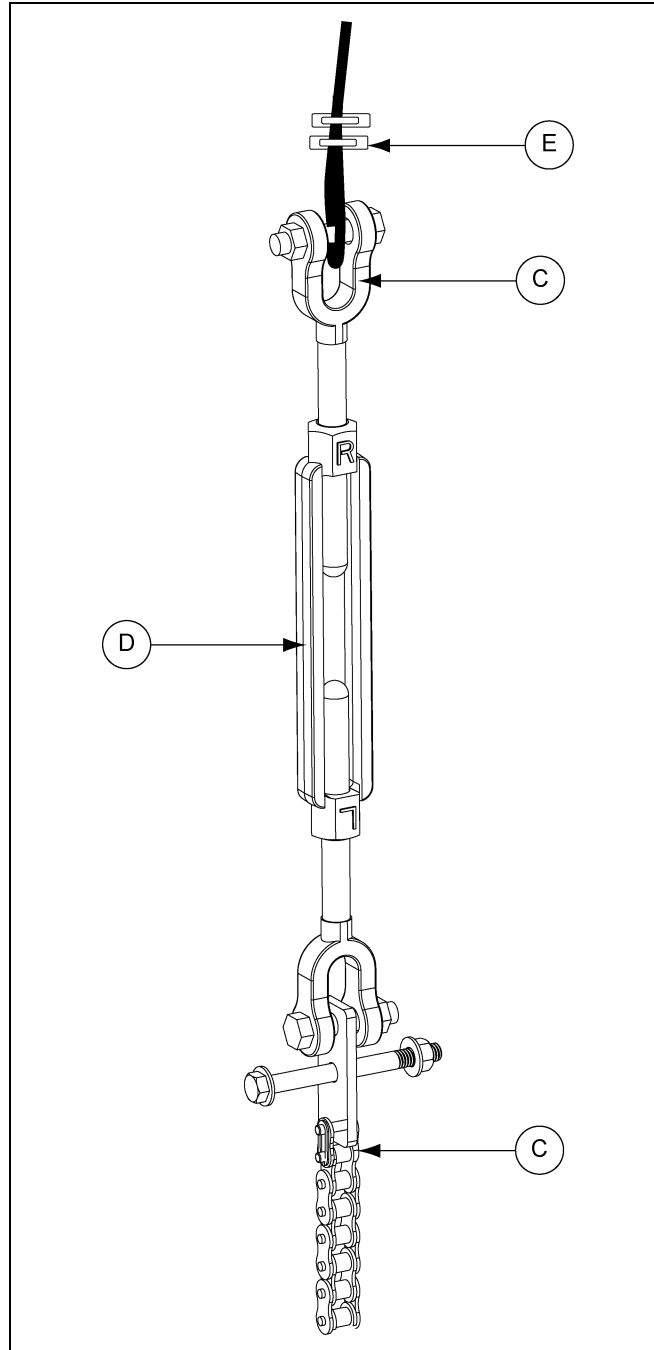

Figure 4J
2. Set turnbuckle (D) to the halfway point to allow for adjustment in both directions. (See Figure 4J.)
3. Bolt the turnbuckle to the chain (C). (See Figure 4J.)
4. Attach the cable to the turnbuckle using cable clamps (E). (See Figure 4J.)